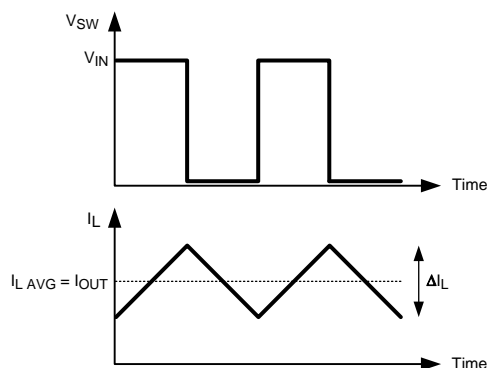

Figure 32. Switch and Inductor Current Waveforms
The inductor (L) used in the application will influence the ripple current and the efficiency of the system. The first selection criteria is to define a ripple current, ΔI_L . In a buck converter, it is typically selected to run between 20% to 30% of the maximum output current. Figure 32 shows the ripple current in a standard buck converter operating in continuous conduction mode. Larger ripple current will result in a smaller inductance value, which will lead to lower inductor series resistance, and improved efficiency. However, larger ripple current will also cause the device to operate in discontinuous conduction mode at a higher average output current.